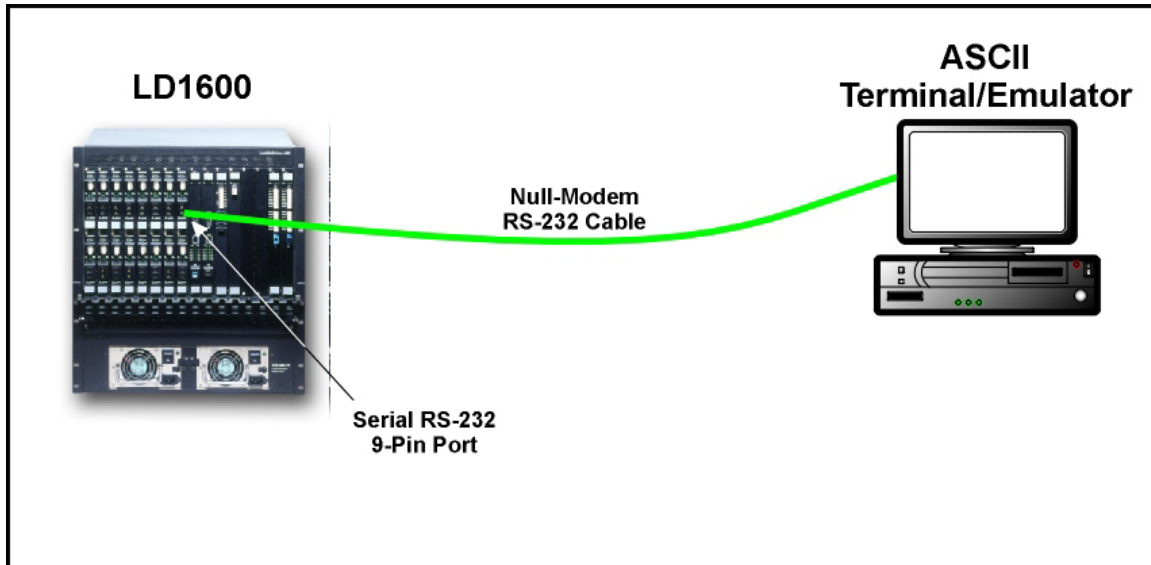

Figure 76: ASCII Terminal/Emulator Connection to LD1600 *Directly*
- **Directly** – as shown in Figure 76.